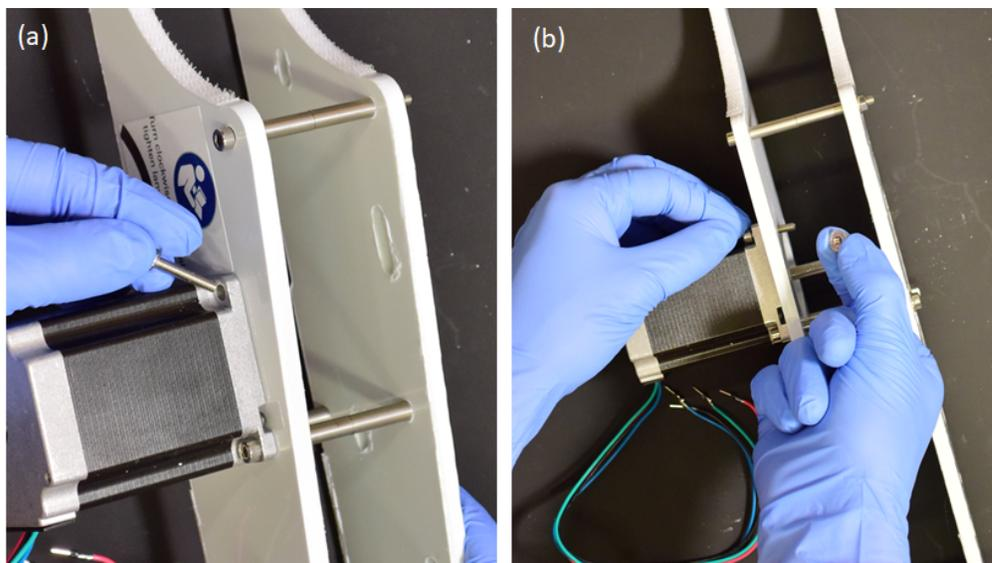

Figure 14
Step 21: Feed the **M4X65 screw [Part 10]** into the corresponding hole on **Base 2 [Part 12]** (Fig. 14).